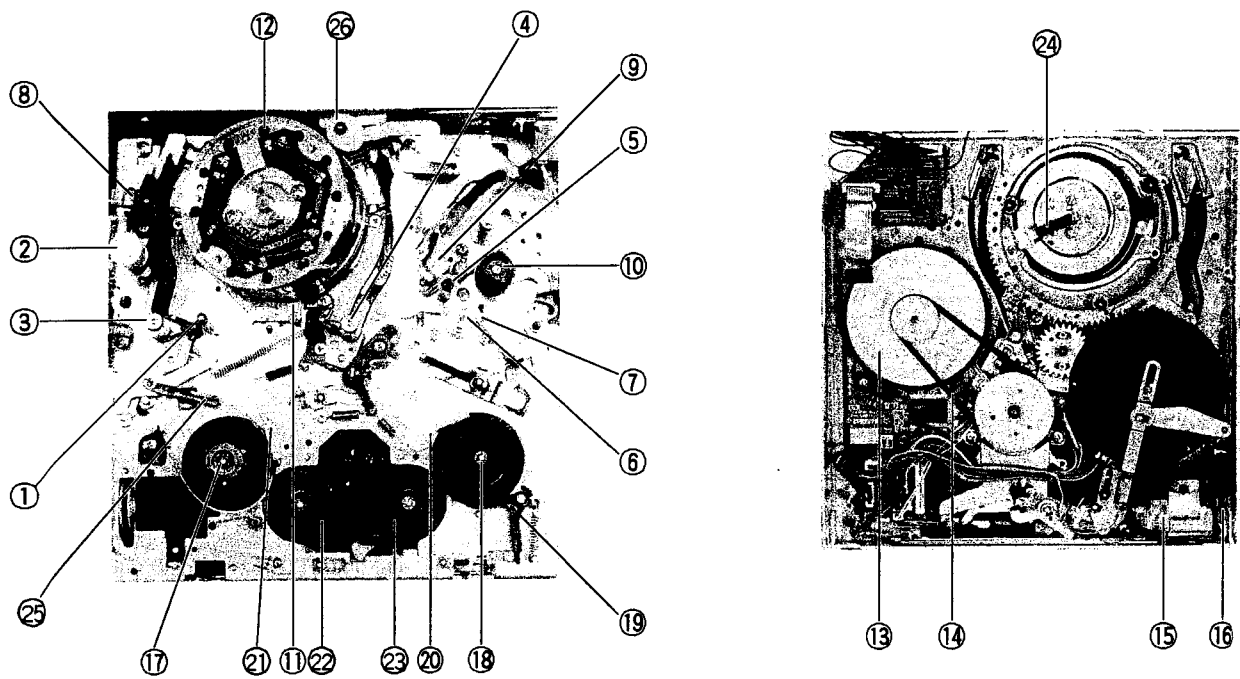

Fig. 2-2-1
*1 Symbol numbers correspond to numbers in Fig. 2-2-1.